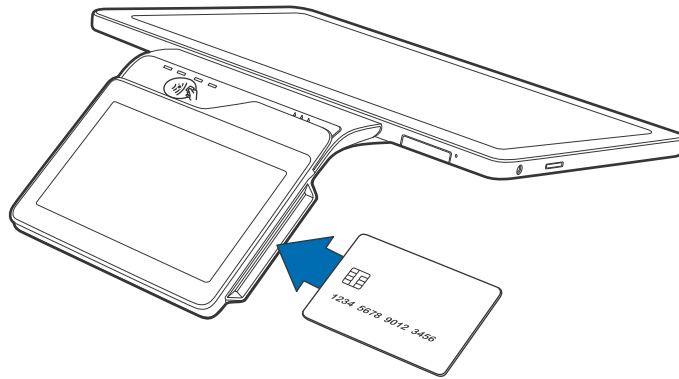

Figure 12 Inserting a Smart Card
- 1 Position a smart card with the contacts facing upward (see Figure 12).